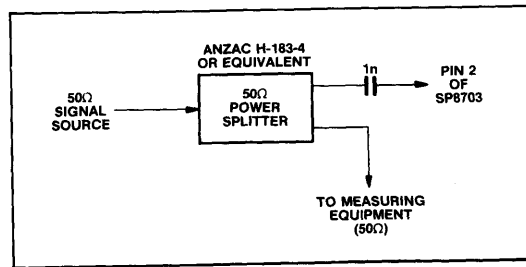

Fig.5 Input voltage measurement method
2. See Fig.5 for input voltage measurement method.